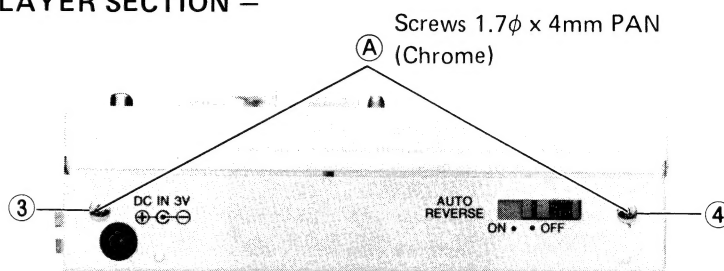

Figure 1
1. Remove two screws (A), two screws (B) and two screws (C) securing front and back cabinets. (Figure 1 and 2)